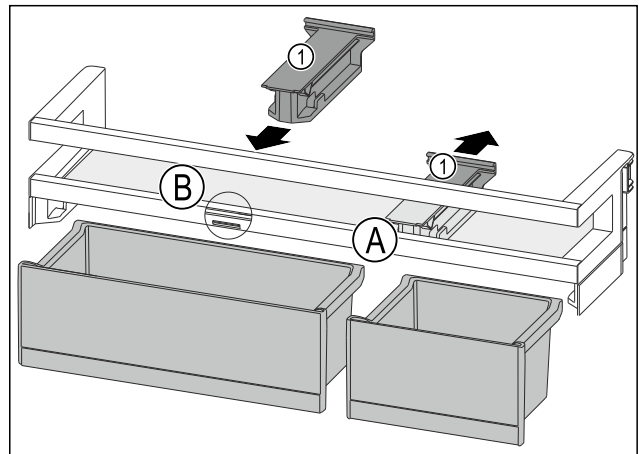

Fig. 130
- ▶ Pull off the retaining part Fig. 130 (1) in position Fig. 130 (A) downward.
- ▶ Insert the retaining part Fig. 130 (1) in position Fig. 130 (B).